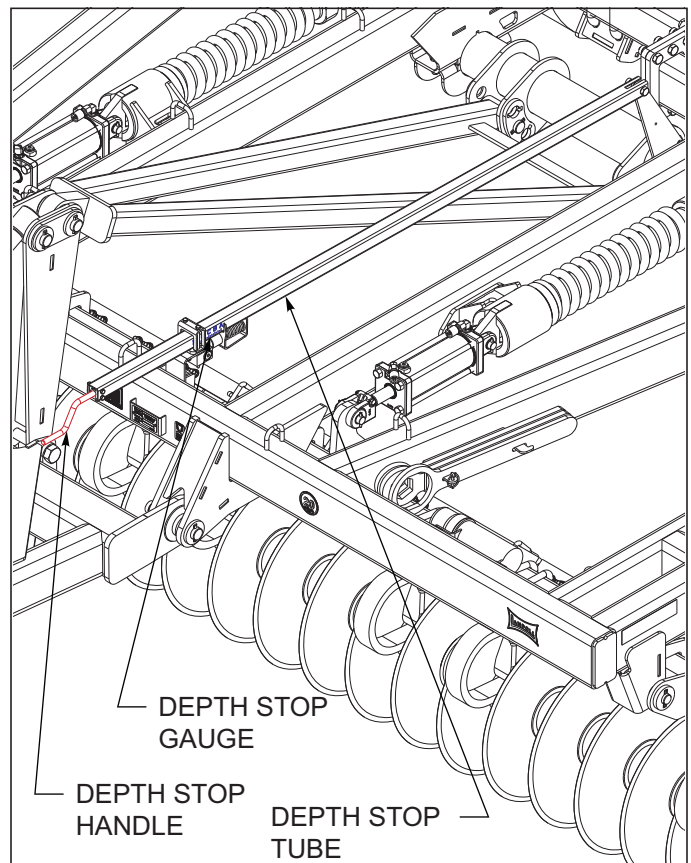

Figure 4-5: Depth Stop Adjustment
1. Adjust the depth stop by turning the handle in (counter-clockwise) to increase operating depth See Figure 4-5. Turn the handle out (clockwise) to decrease operating depth. One turn will equal approximately 1/8" adjustment in depth. Arrows on the front will also show this.